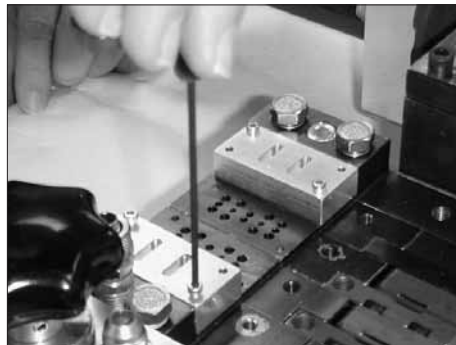

Figure 7-45 Removing block-off plates
2. See Figure 7-45. Using a 2.5-mm hex wrench, remove all block-off plates.